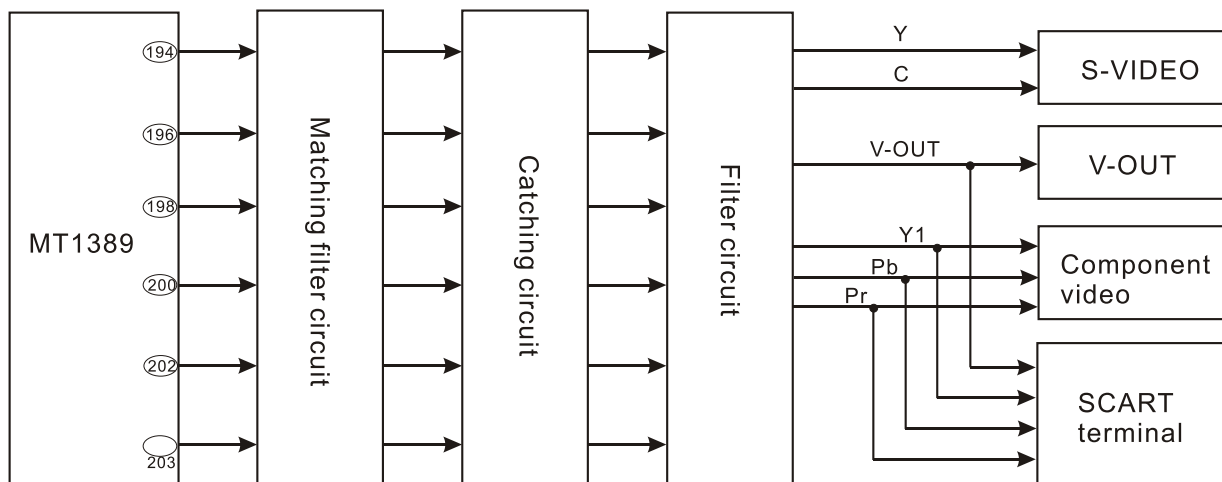

Figure 3.2.10.1 Video circuit block diagram
1. Video circuit block diagram is shown as the following figure 3.2.10.1:
Brightness signal, colour difference signal, CVBS signal and component video signal after being decoded by U201 (MT1389) are sent out to the corresponding terminal for output after lowpass filtering and clipping. Take Y1 signal as an instance, the following figure 3.2.10.2 shows the working principle of filtering limiter circuit.